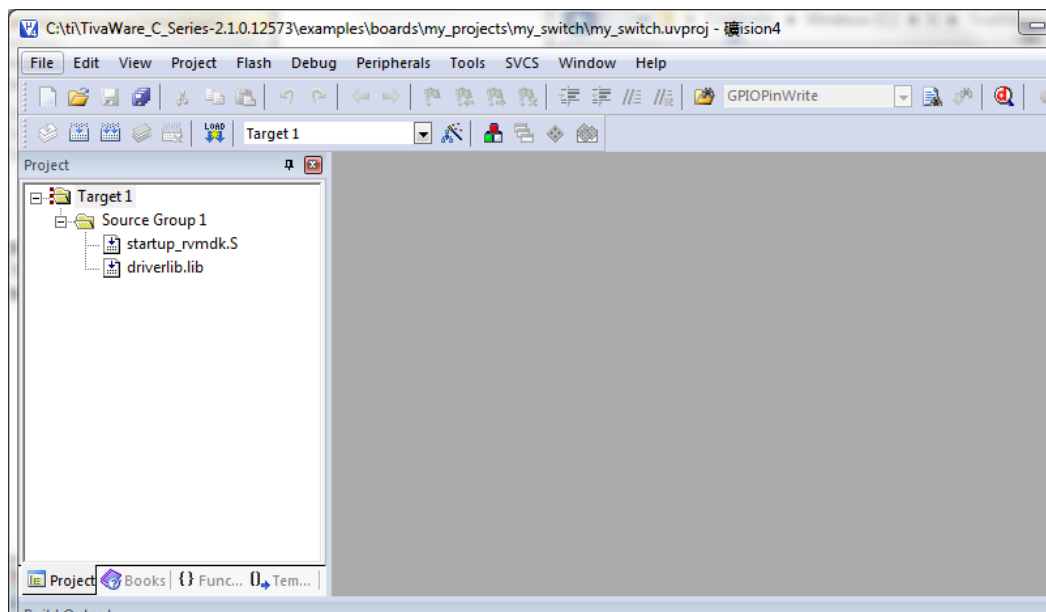

Figure 21
7. Add TivaWare Hooks. To use the functions in the TivaWare library, we need to add the **driverlib.lib** file to the project. Right-click the *Source Group 1* folder in the µVision IDE and select *Add Existing Files to Group 'Source Group 1'...* When the dialog box pops up to find the file, browse to the directory *C:\ti\TivaWare\_C\_Series-2.x.x.xxxx\driverlib\rvmdk*, select **driverlib.lib**, and add it to *Source Group 1* (see Figure 21).